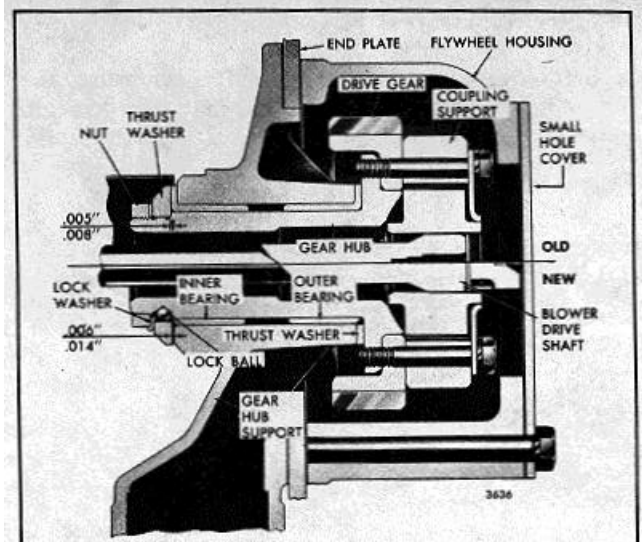
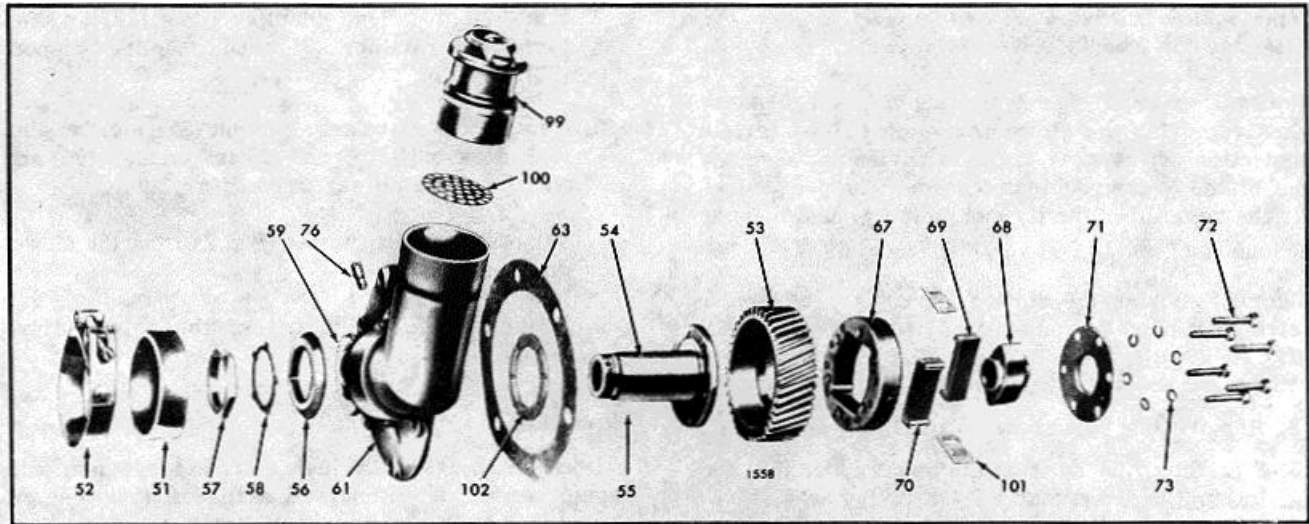

Fig. 2. Blower Drive Support Assembly
Fig. 5. Typical Blower Drive Gear Details and Relative Location of Parts
3. Straighten the ears on the lock washer (58) and loosen the drive gear hub nut (57), Fig. 5.
2. Take out the drive coupling bolts (72) and remove the retainer (71) and coupling support (67), see Fig. 5.
3. Remove the drive gear hub nut (57), lock washer (58), lock ball (55) and thrust washer (56) and withdraw the blower drive gear hub.
4. Remove the thrust washer (Fig. 2) from the blower drive gear hub.
The current bearing on the gear end protrudes .045" to .055" above the surface of the face to facilitate the installation of the blower drive thrust washer (102) Fig. 5. The other bearing is installed with the end flush to .030" below the surface of the face of the support. Each of the former bearings were flanged. Replacement bearings must withstand a 2000 lb end load without moving, also the bearing bores must be square with the inner and outer faces of the support within .001" total indicator reading.
The relative location of the parts is shown in Fig. 5.
2. Place a new gasket (63) on the mounting face of the hub support (Fig. 5).
5. Install the blower as outlined on Page 10-4-15 and secure the seal (61) and clamp (52) shown in Fig. 5.